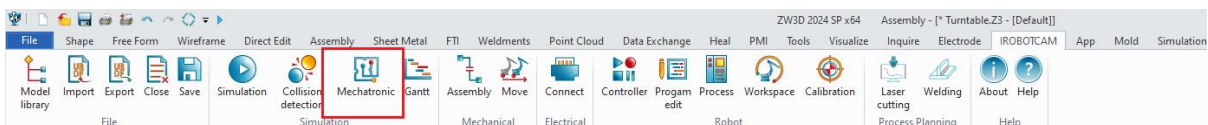

Figure 13-17: Mechatronic button
- Click the "Mechatronic" button.(Figure 13-17)